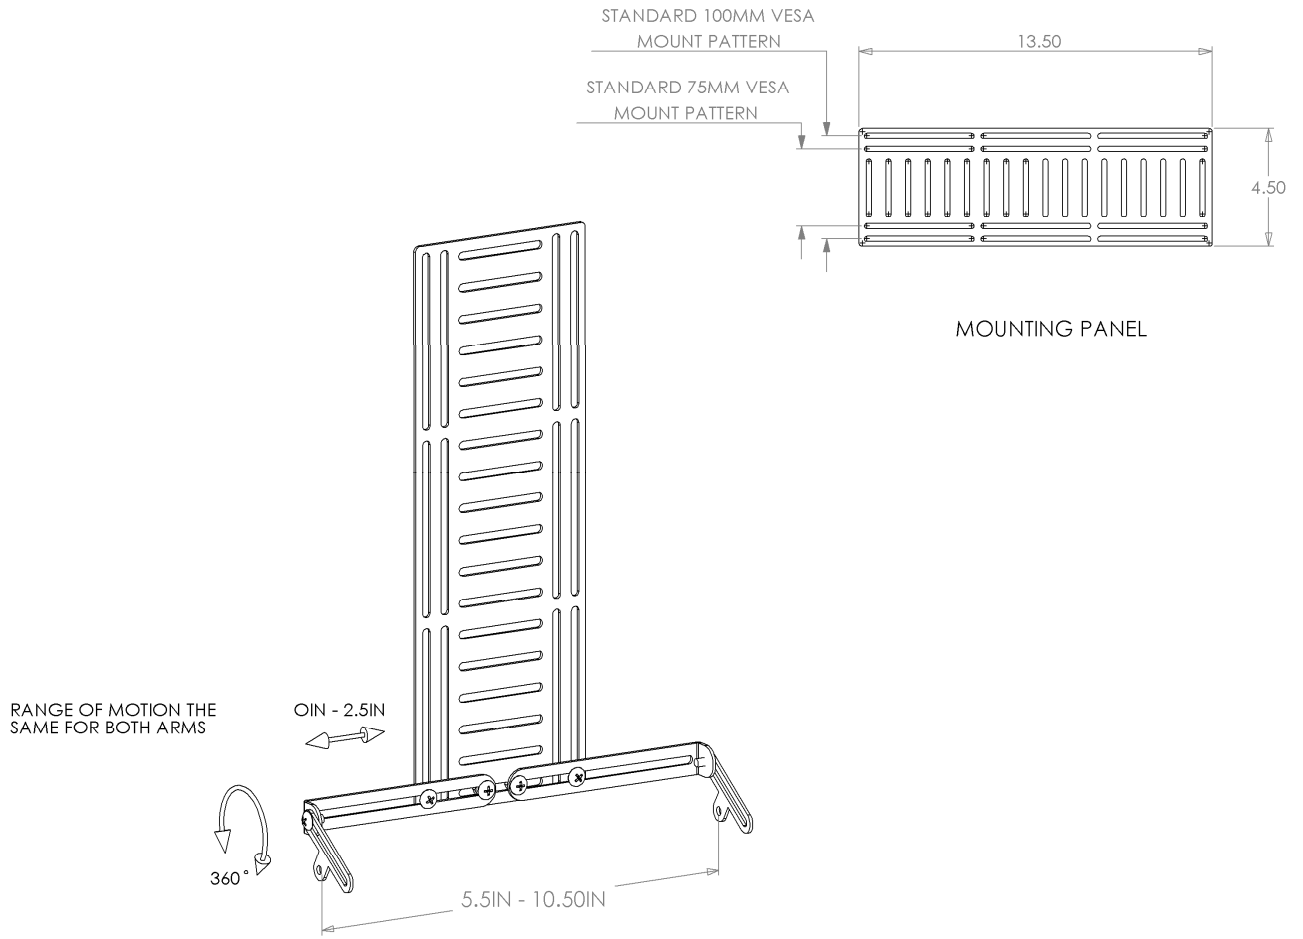

Figure 1 - FPAM
1. Examine the contents of the optional FPAM hardware kit (See Figure 1). Note that the arms and tee tangs of the hardware kit can be custom configured to attach a wide variety of bump bars, card swipes, speakers, etc. to the mounting plate.